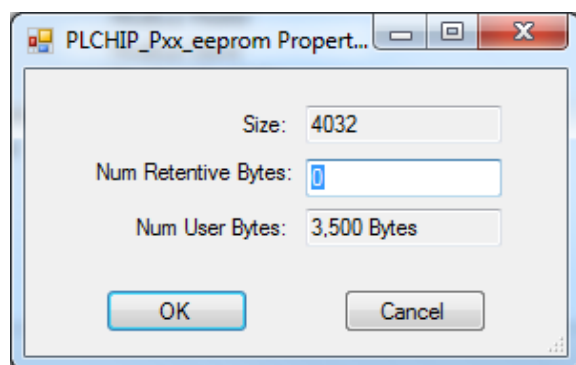

Figure 2-37 - PLCHIP Pxx_eeprom Properties
5. Click **OK**. The **PLCHIP_Pxx_eeprom Properties** dialog will open. Leave the default settings (Num Retentive Bytes set to 0). See Figure 2-37. Click **OK**.